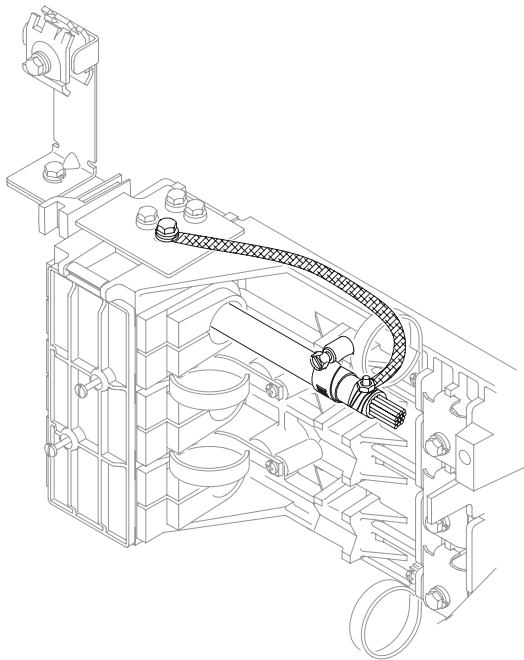

FIGURE 5—Installing Bonding of Shield Cable.
6.06 Bonding and Grounding of Shielded Cable (Refer to Figure 5)